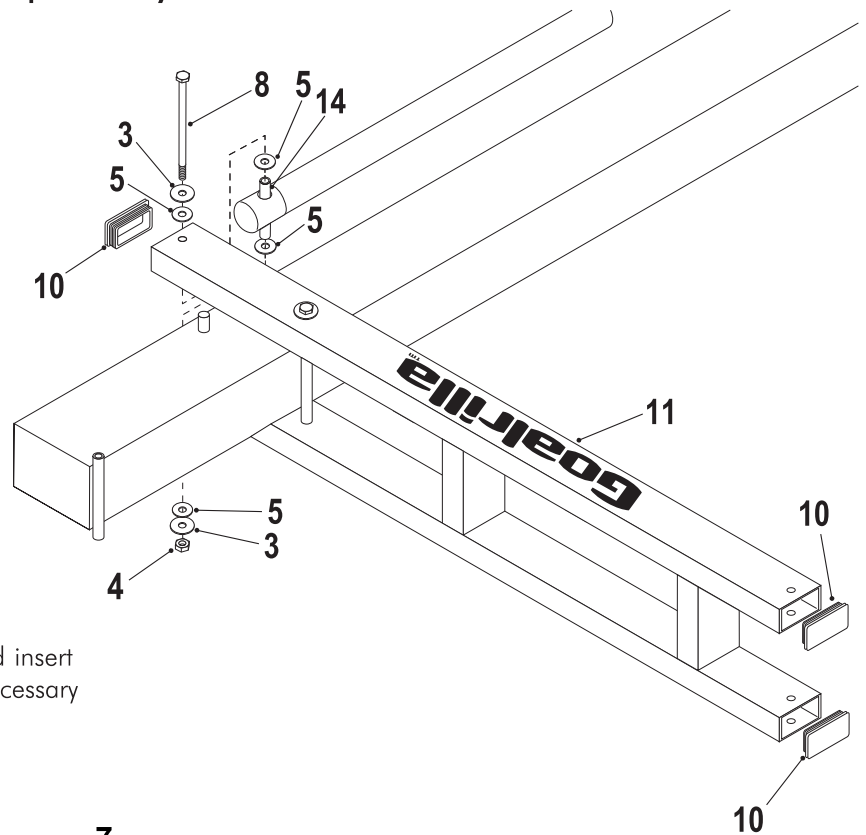

Figure 6
- Secure Actuator (#16) to Lower Arm (#11) using one bolt (#8), two flatwashers (#3), four plastic washers (#5) and one locknut (#4). See Figure 6. Tighten both bolts (#8) **snug but, do not over tighten. Board Arms must pivot freely.**